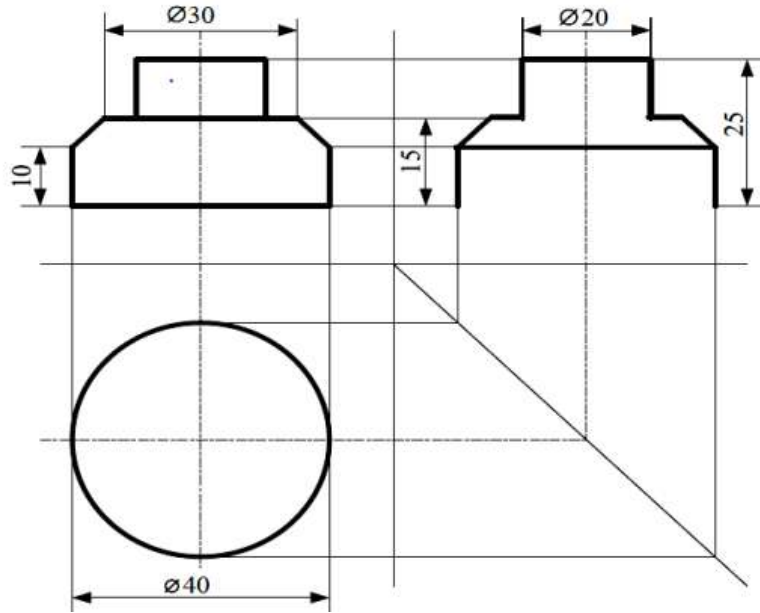

Fig. 2
12. The fig. 2 shows uncompleted views drawn in orthographic projection, using drawing instruments, complete the views by adding the missing lines. (20 marks)